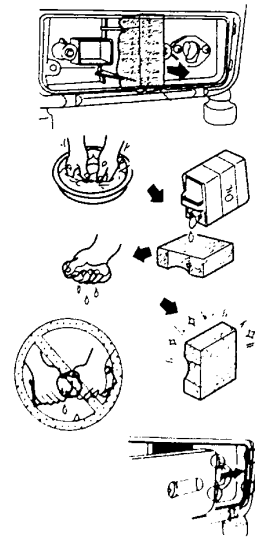

Figure 6
1. Remove foam air filter. See Fig.6.